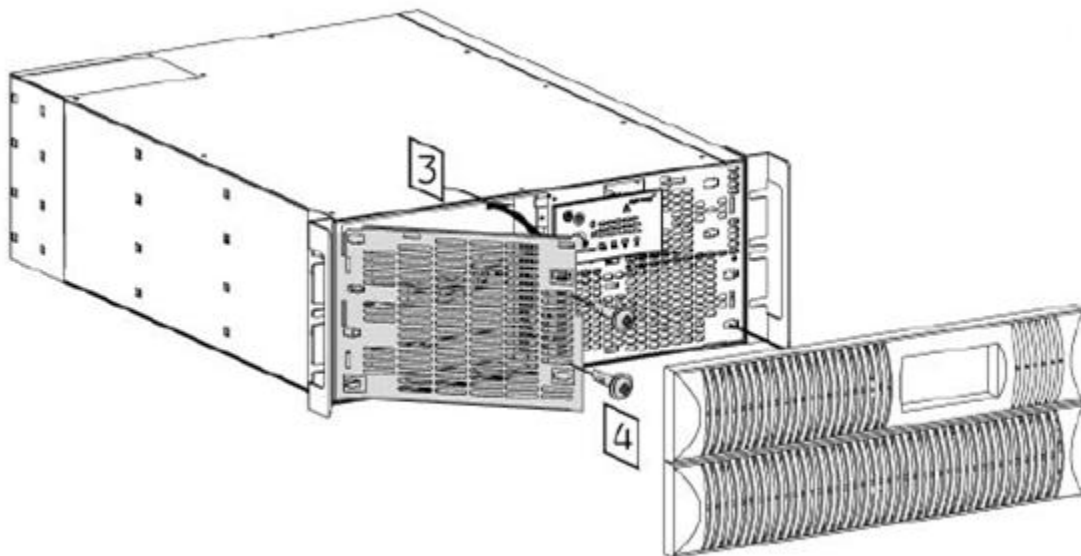

FIG 14 – XPRT-6KVA ATTACH BATTERY COVER ON UPS
4. Fix the battery cover by tightening screws (see FIG 14).